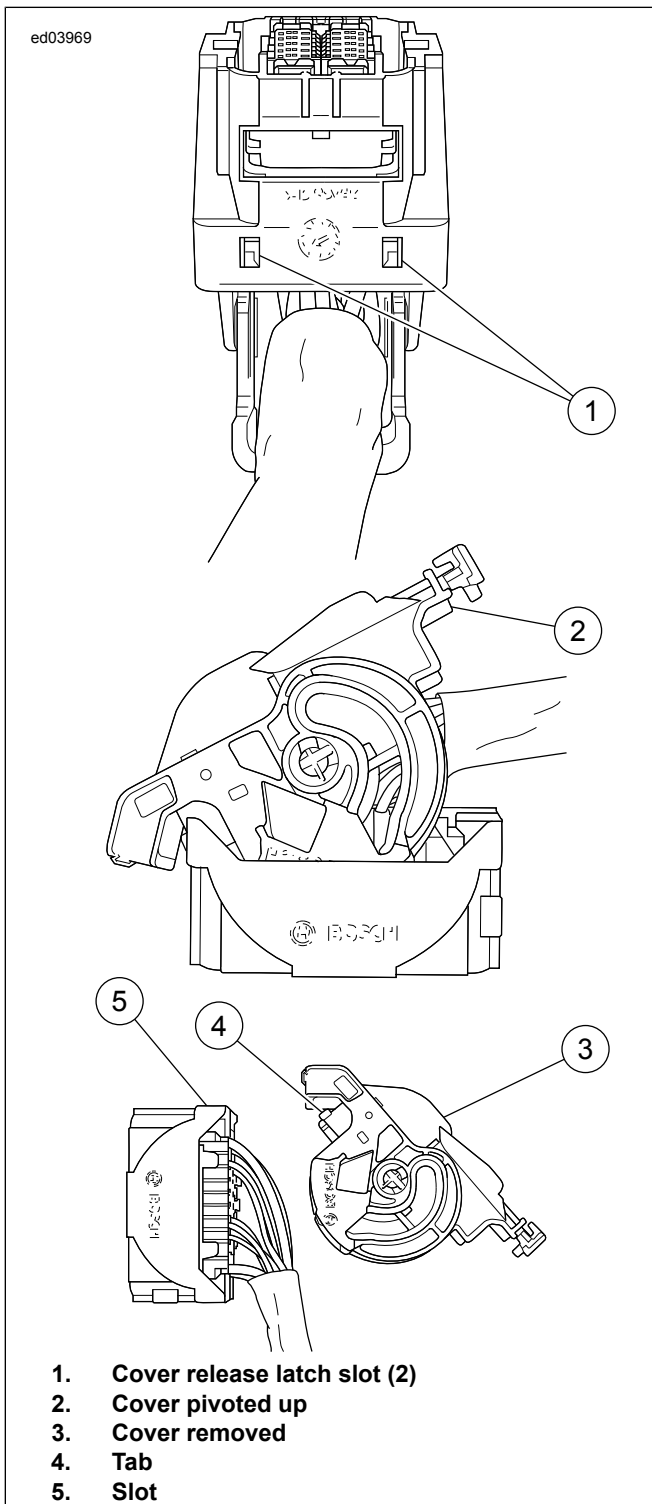

Figure B-2. Removing Bosch BTC Sealed Connector Cover
2. See Figure B-2. Insert the blade of a small screwdriver into cover release latch slot.
4. See Figure B-2. Start cover into connector body at an angle. Engage tabs in slots.